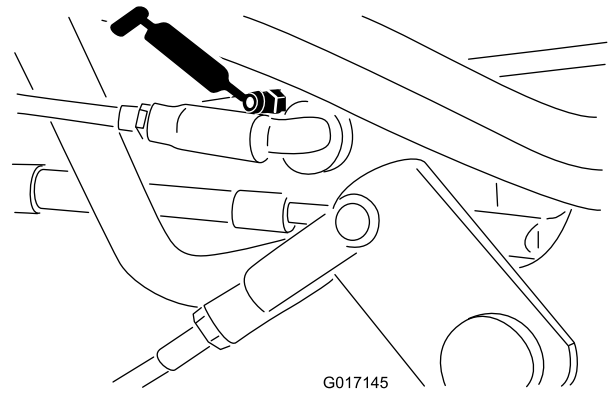
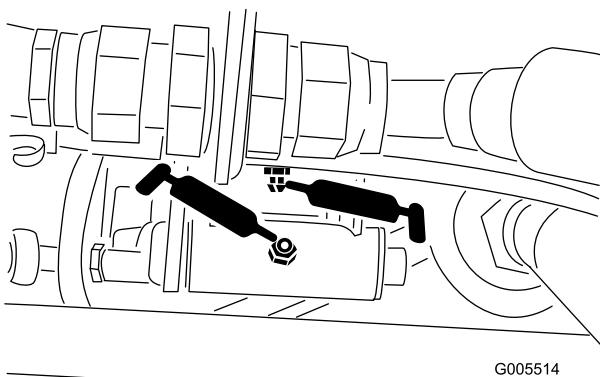

Figure 37
Figure 36
- Speed-selector linkage (Figure 36 and Figure 37)